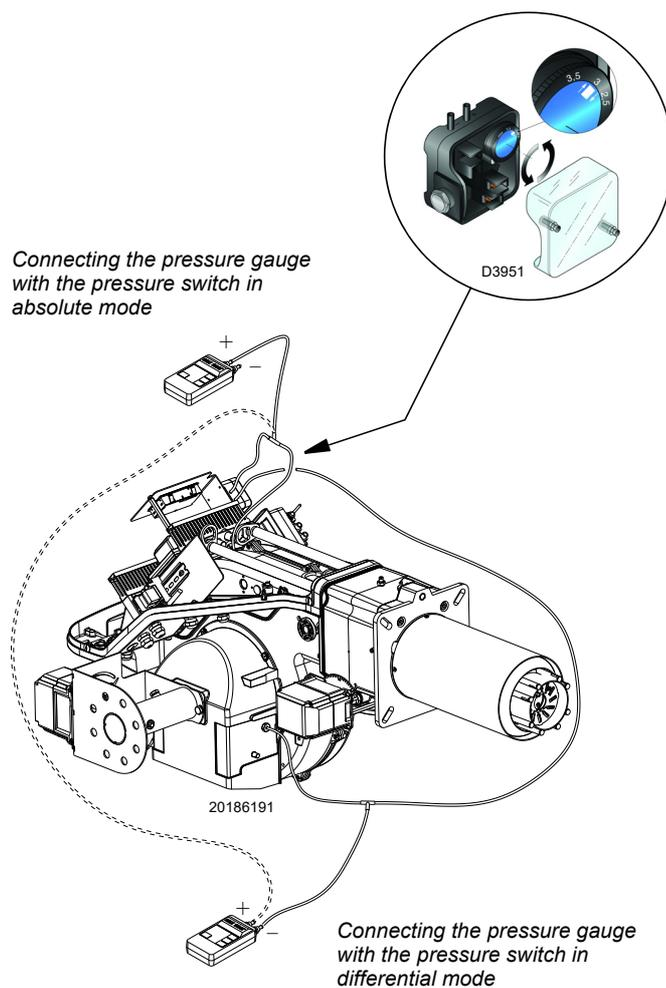

Fig. 30
- Adjust the air pressure switch (Fig. 30 on page 27) to the start of the scale.
Adjust the air pressure switch (Fig. 30) after having performed all other burner adjustments with the air pressure switch set to the start of the scale.
The connection of the pressure gauge is shown in Fig. 30. The standard configuration is that with the air pressure switch connected in absolute mode. Note the presence of a "T" connection, not supplied.
In this case also, the pressure gauge must be connected in differential mode, as shown in Fig. 30.